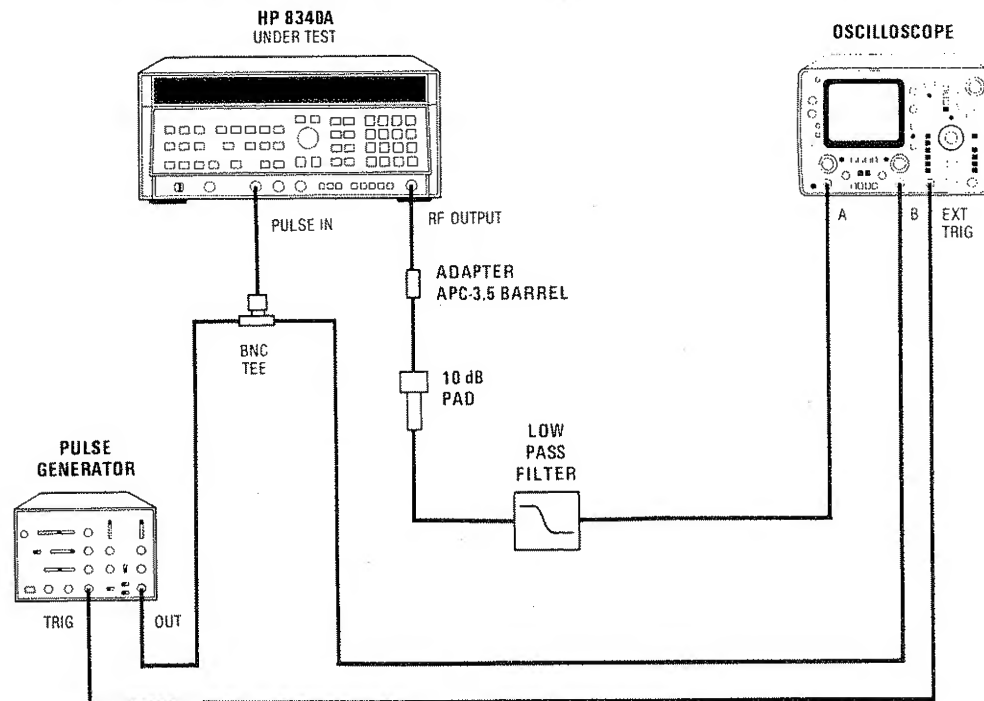

Figure 4-17. Pulse Modulation Video Feedthrough Test Setup
1. Connect equipment as shown in Figure 4-17. Attach the BNC tee directly to the 8340A PULSE input connector. Allow at least 30 minutes warm up time.